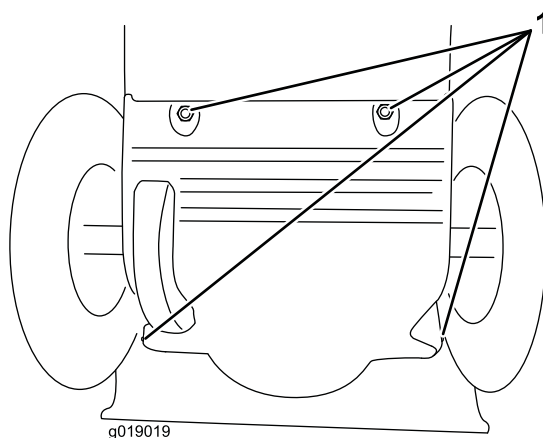

Figure 40
- Remove the back cover (Figure 40).